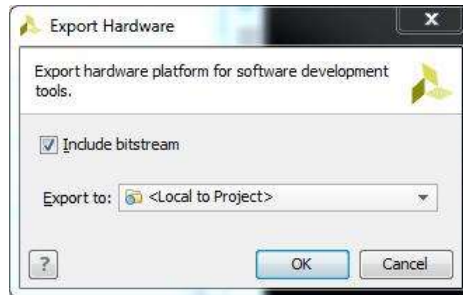

Figure 33: Export Hardware Dialog Box
2. In **Export Hardware** dialog box, select **Include bitstream** check box, shown in Figure 33. Make sure that the **Export to** field is set to <Local to Project>.